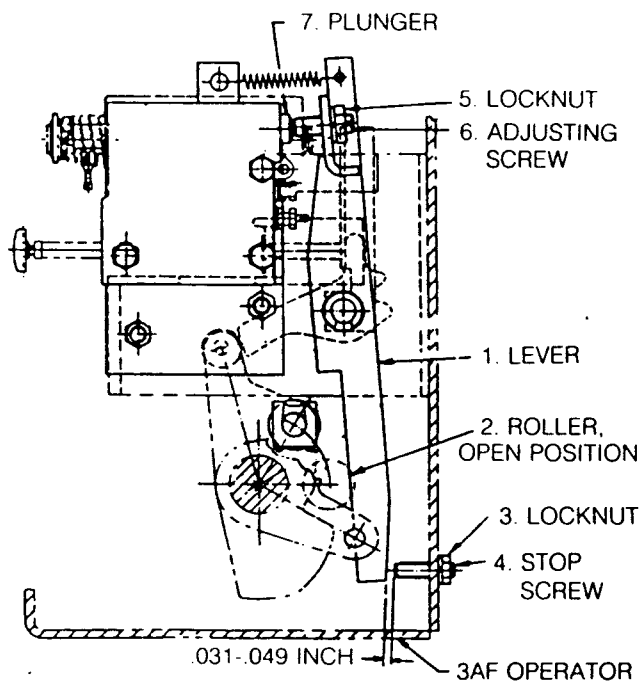

FIGURE 21b
1. Place the circuit breaker in the OPEN position, and be sure that the springs are discharged. Refer to Figure 21b for all adjustments